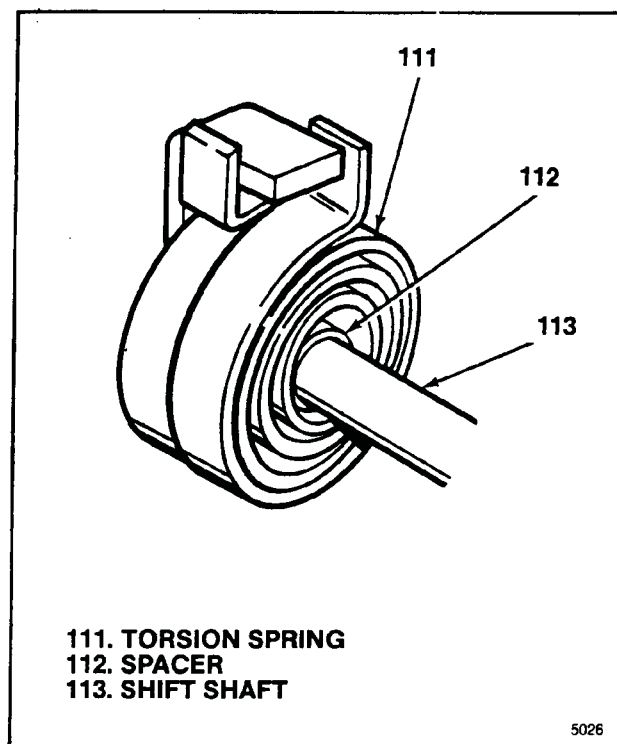

Figure 5-6. Completing Spring Assembly
d. Push torsion spring (111) and spacer (112) together back as far as they will go (see figure 5-6).
e. Slide electric shift cam (110) onto shift shaft (113), drive tang on cam first. Position drive tang on cam so that it will go under drive tang on shift shaft and between spring ends and slide cam as far as it will go.